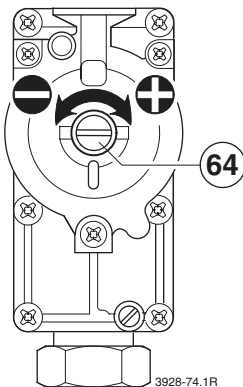

Fig. 42
- ▶ Remove the seal from the gas valve adjusting screw (64) and adjust the CO₂ level to the figure given in Table 15 for min. rated heat output. Refer to fig. 42.